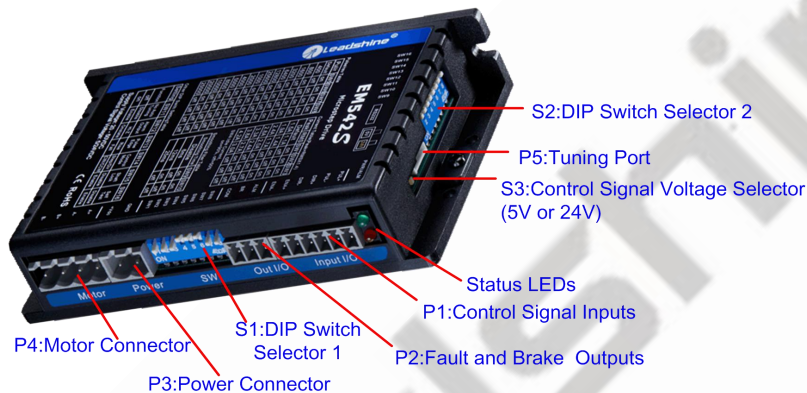

Figure 2 Connectors, DIP switches, and LED locations
| DIR- (CCW-) | (6) The activated edge of PUL and DIR is set by DIP Switch SW13 (7) The factory setting of control signal voltage is 24V, must need to set S3 (figure 2) if it is 5V |
| ENA- | (3) ENA signal requires advance DIR signal minimum 5μs in single pulse mode (4) The default control signal voltage is 24V, to set S3 (figure 2) if it is 5V (5) Enable time to be at least 200ms |
The EM542S can accept differential or single-ended control signals (pulse, direction, and enable) in open-collector or PNP connection through the P1 connector (figure 2). It is recommend to add an EMI line filter between the power supply and the drive to increase noise immunity for the drive in interference environments.
The first 8-bit is located on the side (DIP switch selector 1 in Figure 2) and used to configure settings of micro step resolution, output current, and motor standstill current as shown below, the factory setting of SW1-SW8 is **ON, ON, ON, OFF, OFF, OFF, ON, ON**.
The second 8-bit DIP switch is located on the top (DIP switch selector 2 in figure 2), and used to configure settings of control command filtering time, motor auto-configuration, fault output impedance, pulse active edge, control mode, lock shaft, and self-test as shown below, the factory setting of SW1-SW8 is **OFF, OFF, OFF, OFF, OFF, OFF, OFF, OFF**.
The Third 1-bit selector is located on the top (DIP switch selector 3 in figure 2), used to configure the voltage of control signals. For the safety of optically coupled, the factory setting is 24V, which no need to connect 2K resistors like the old drives, making it easier to use. When the voltage of the control signal is 5V, the S3 must be set to 5V, otherwise, the motor won't work.